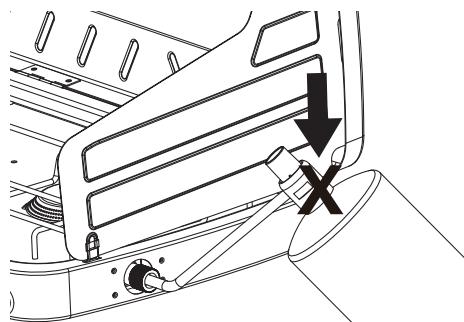

Figure 7
1. Make sure the regulator is securely fastened to the burner tube connection (Figure 7).